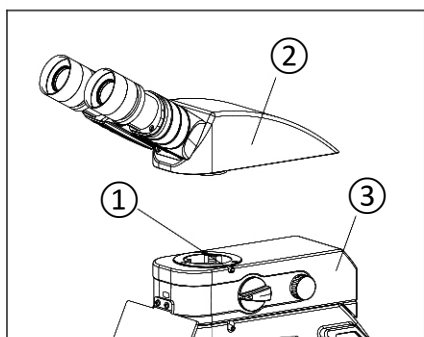

Fig. 23
Match the dovetail on the bottom of the head (2) to the dovetail mount on the top of the illuminator (3), and secure it by tightening the lock screw (1). (Fig. 23)